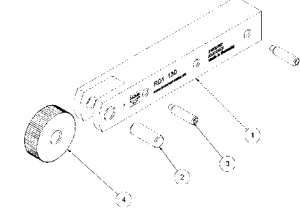
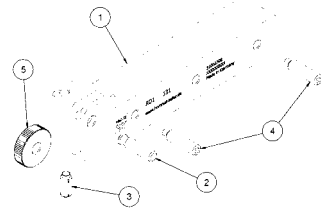
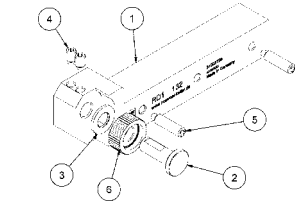
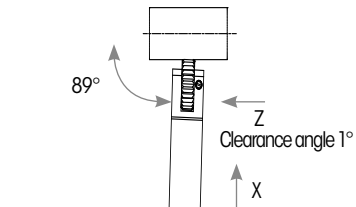

Fig. 1: Series 130 exploded drawing
Fig. 2: Series 131 exploded drawing
Fig. 3: Series 132 exploded drawing
Fig. 6: Radial and axial machining direction
Please specify the tool number and the corresponding position number (see Fig. 1 – 3).
Tool series 130: The centre height corresponds to the shaft centre of the tool holder (Fig. 1, Pos. 1)
Tool series 131 / 132: The centre height corresponds to the upper edge of the shank of the tool holder (Fig. 2, Fig. 3, Pos. 1)
In order to guarantee a better material flow during axial machining, correct the clearance angle of the knurling holder with the threaded pin in the shank (Fig. 1, Pos. 3; Fig. 2, Pos. 4; Fig. 3, Pos. 5) by 1-2° (Fig. 6). This depends on the materials to be machined or application problems which may arise.
Replace the axle pin (Fig. 1, pos. 2 / Fig. 2, Pos. 2) or collar stud (Fig. 3, Pos. 2) and race (Fig. 3, pos. 3) and ClickPin system (Fig. 2, Pos. 3) after a reasonable number of cycles, no later than upon appearance of significant wear or deviating process parameters. Inspect the slot of the base holder for wear and widening. An adequate flow of coolant or cutting oil is recommended!